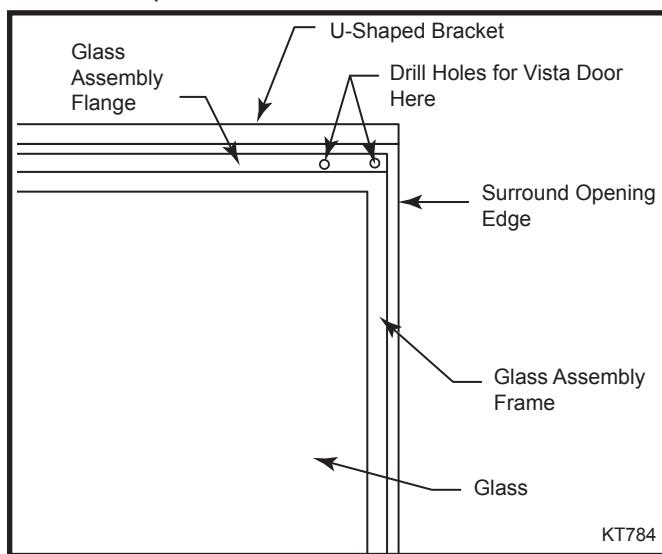
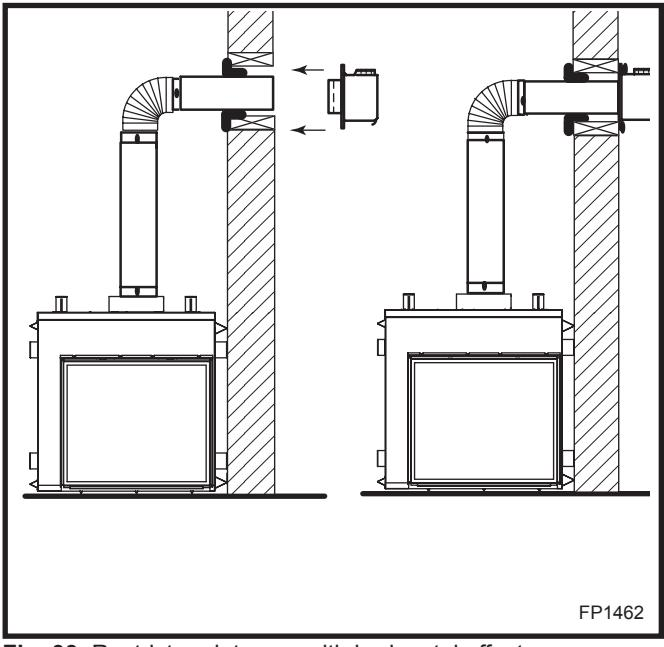

Fig. 28 Vista door top hole locations.
Fig. 33 Restrictor plate use with horizontal offset.
4. For window frames not having pre-drilled holes: Align the short brackets so the edge of the bracket is exactly aligned with the side edge of the fireplace window's top flange, as shown in Figure 28. Mark the location of the holes using a pencil mark through the bracket holes. Drill 1/8" holes at each of the four (4) locations. Mount brackets using four (4) sheet metal screws.
7. Slide the Vista door assembly over the fireplace window frame aligning the four (4) holes with the four (4) brackets.
8. Using the machine screws, attach the Vista door to the four (4) brackets. Do not overtighten.
For vertical venting configurations that include a minimum vertical rise of 12' (3.7 m) and a maximum horizontal offset of 10' (3 m) the 4½" flue restrictor plate supplied with this unit should be used on LP unit only. (Fig. 33) Refer to Figure 28 for flue restrictor plate installation.